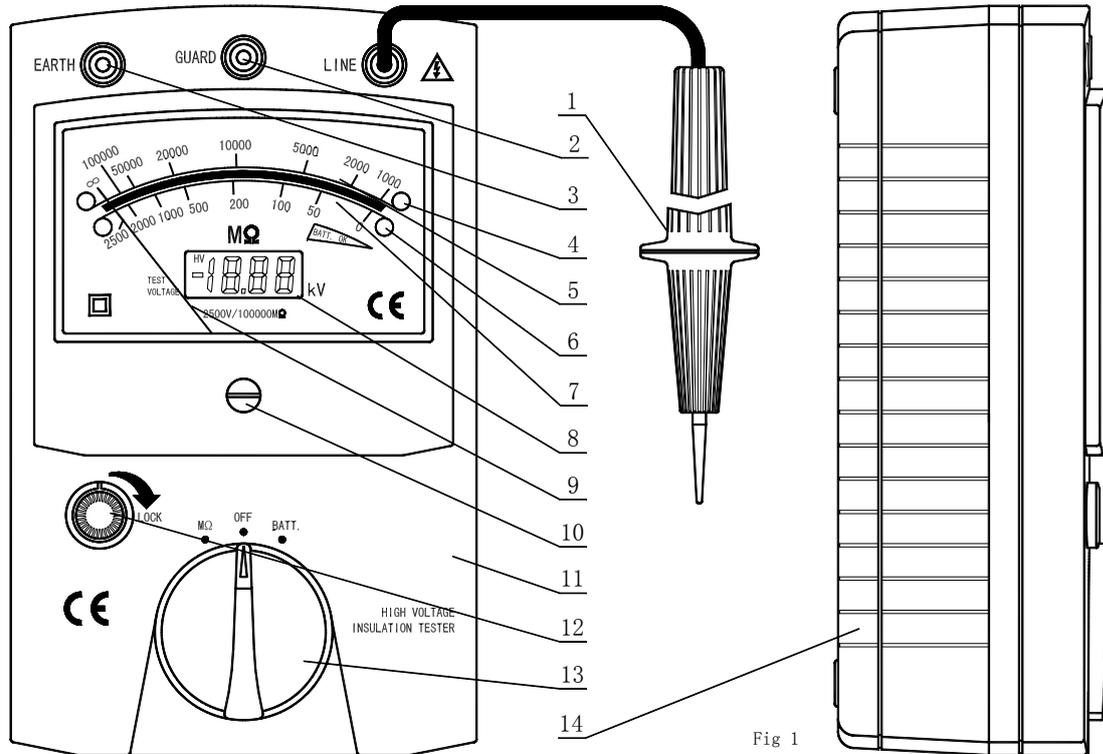

Fig 1
2.1 NAMES OF COMPONENTS (See Fig 1)